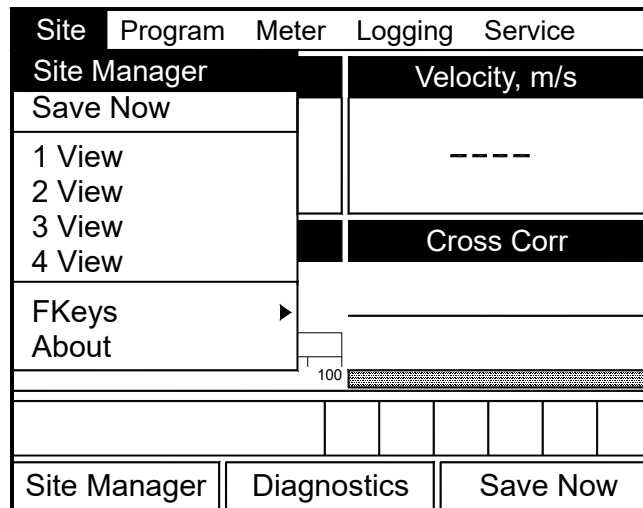
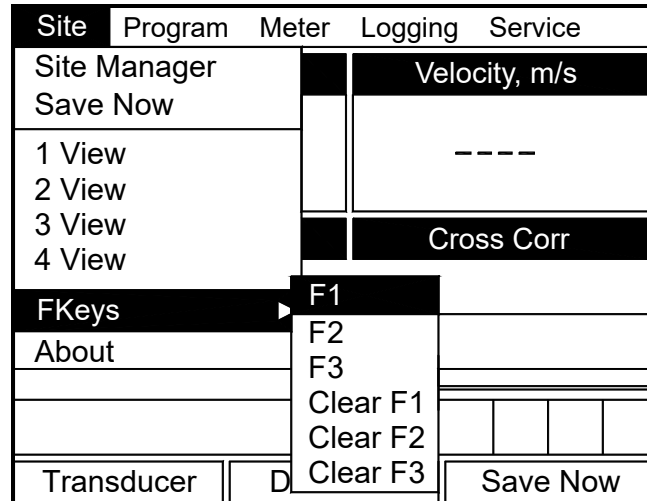

Figure 42: Site Menu
Figure 44: FKeys Menu
To enter the Site Menu, press the [MENU] key at the lower right of the CTF878 keypad. The Menu Bar replaces the Status Bar at the top of the screen. Scroll to the Site Menu using the [◀] or [▶] key. Press [ENTER] or the [▼] arrow key. The screen now appears similar to Figure 42 below. While following the programming instructions, refer to Figure 60 on page 51.
As mentioned earlier, the CTF878 can display one to four different measurement parameters simultaneously. However, sometimes you might wish to display only one or two parameters. To change the number of open display windows from within the Site Menu (shown in Figure 42 on page 38), use the [▼] or [▲] arrow keys to move to the desired number of views (1 View, 2 Views, etc.). Press [ENTER].
- From the Site Menu (shown in Figure 42 on page 38), use the [▼] or [▲] arrow keys to move to the FKeys entry on the menu. Press [ENTER]. The screen now appears similar to Figure 44 below.
- From the Site Menu (shown in Figure 42 on page 38), use the **[▼]** or **[▲]** arrow keys to move to the FKeys entry on the menu. Press **[ENTER]**. The screen now appears similar to Figure 44 on page 40.